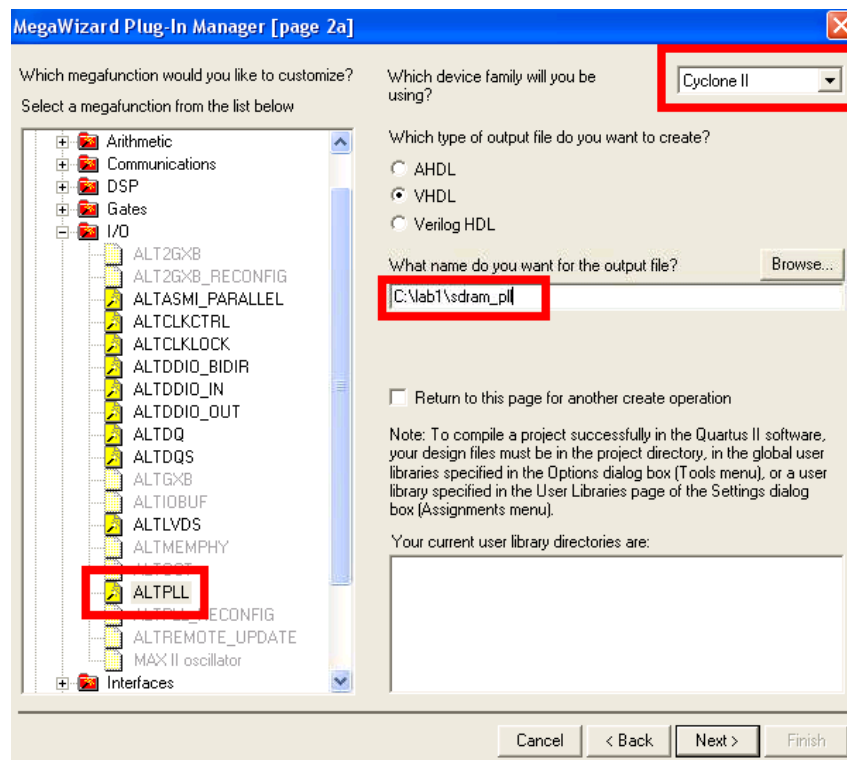

Figure 1-41: Creating a PLL
4. Select “Installed Plug-Ins->I/O->ALTPLL” and name it as “sdram_pll” as shown in Figure 1-41, and click “Next”